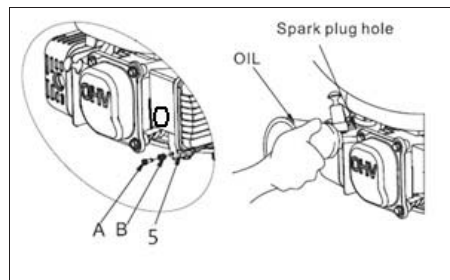

Fig. 13
3. After all the fuel has drained into the container, reinstall the drain bolt and washer. Tighten the drain bolt securely. (See Fig. 13)